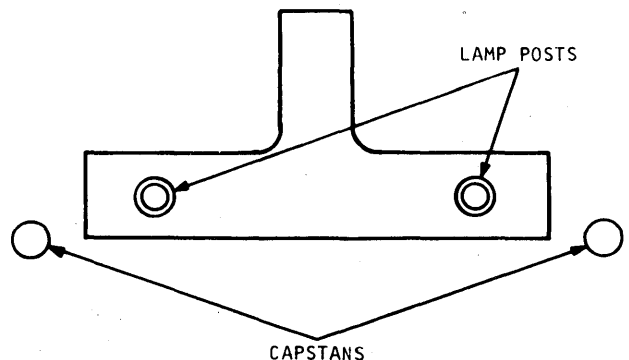

Figure 34. Head Penetration Gage in Position
Open the cover and fit the penetration gage down onto the lamp posts as shown on Figure 34. This gage is part number 100542-001 for read/write TTU's (6106-01 and 02) and 100542-002 (black) for TTU's 6106-03 and -04 (read-after-write). Note that in 6106-03 and -04 models the gage is colored black as is the head clamp assembly. Slacken the screws holding the head clamp assembly. Do not slacken the two front screws. Close the cover and push the head forward in the clamp until the face of the head is gently touching the front face of the gage. Tighten the head clamp screws at this point. Open the cover and remove the gage. It is important to use the correct gage according to the TTU type because read-while-write heads should penetrate further into the cassette. This penetration
12. Penetration gage (100542-001 for 6106-01, -02, and 100542-002 for 6106-03, -04). See Figure 34. This is available from Raymond Engineering.